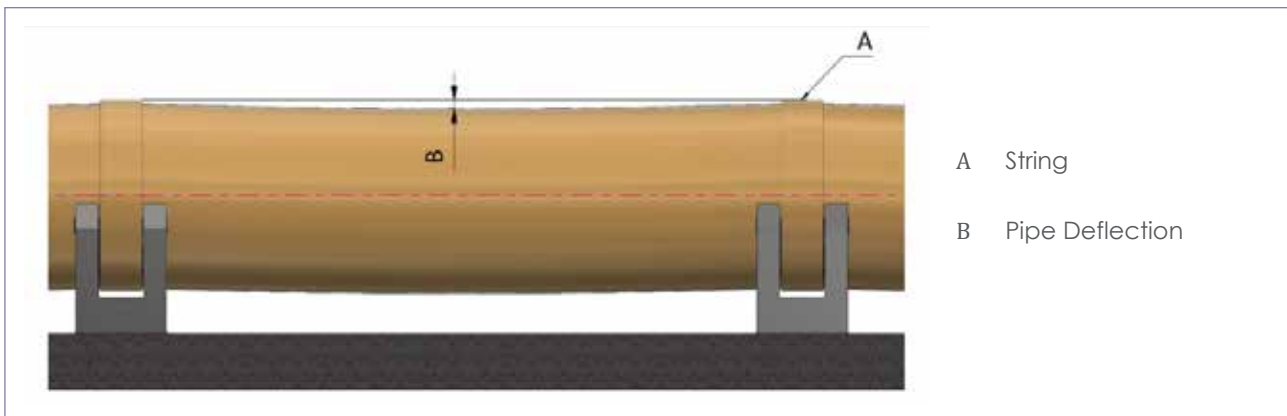

Figure 43 - Pipe deflections measurements
- b) Check couplers movement relative to the marks made prior to filling the pipe. Note that the weight of fluid in the pipe will cause rotation of pipe ends (Figure 43).
- g) Measure and record the maximum deflection of the pipes for each pipe span. The pipe deflection can be measured by using a tensioned string as a reference, see Figure 43.